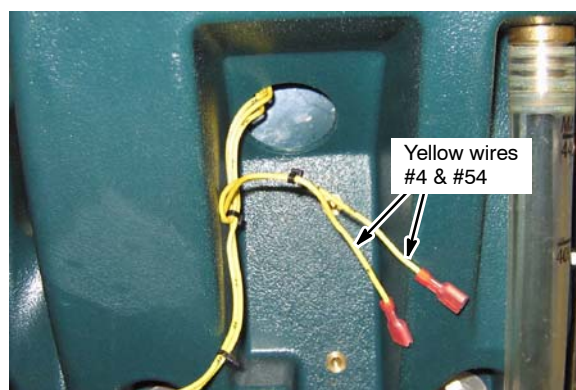

Fig. 10
10. Route the two yellow wires with open terminals from control console down through hole as shown (Figure 10).